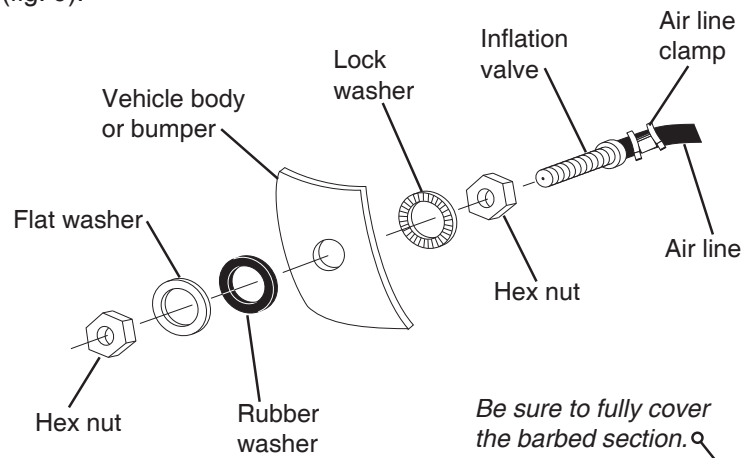

fig. 8
- Drill a 5/16" hole for the inflation valve and mount as shown (fig. 8). The rubber washer serves as an outside weather seal.
7. Drill 5/16 " hole for inflating valves and mount as illustrated. Rubber washer is for outside weather seal (see fig. 8).